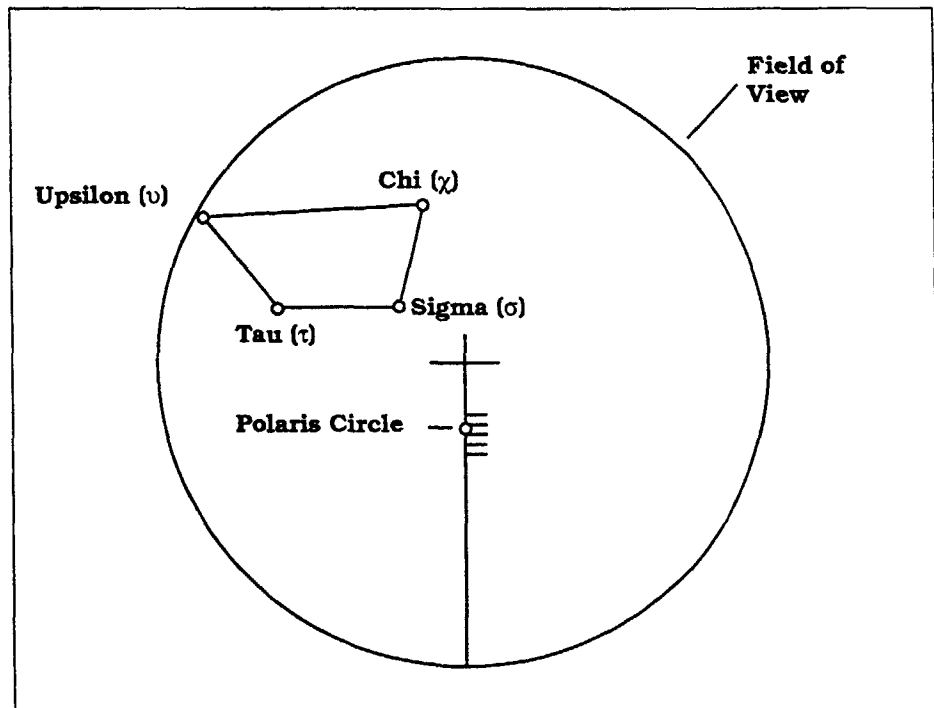

Figure 8-11
10. Adjust the mount in altitude and azimuth until Polaris is in the small circle on the straight line (see figure 8-11).